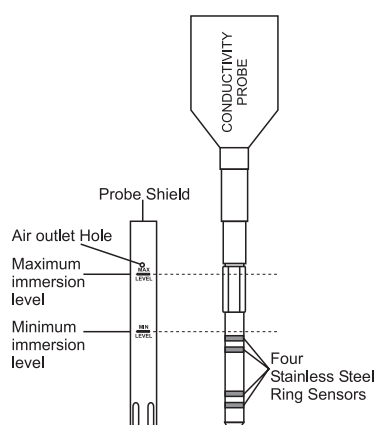

Fig. 2
- Dip the probe into the solution by ensuring that all 4 rings of the probe are immersed and without exceeding the maximum level (Fig. 2).